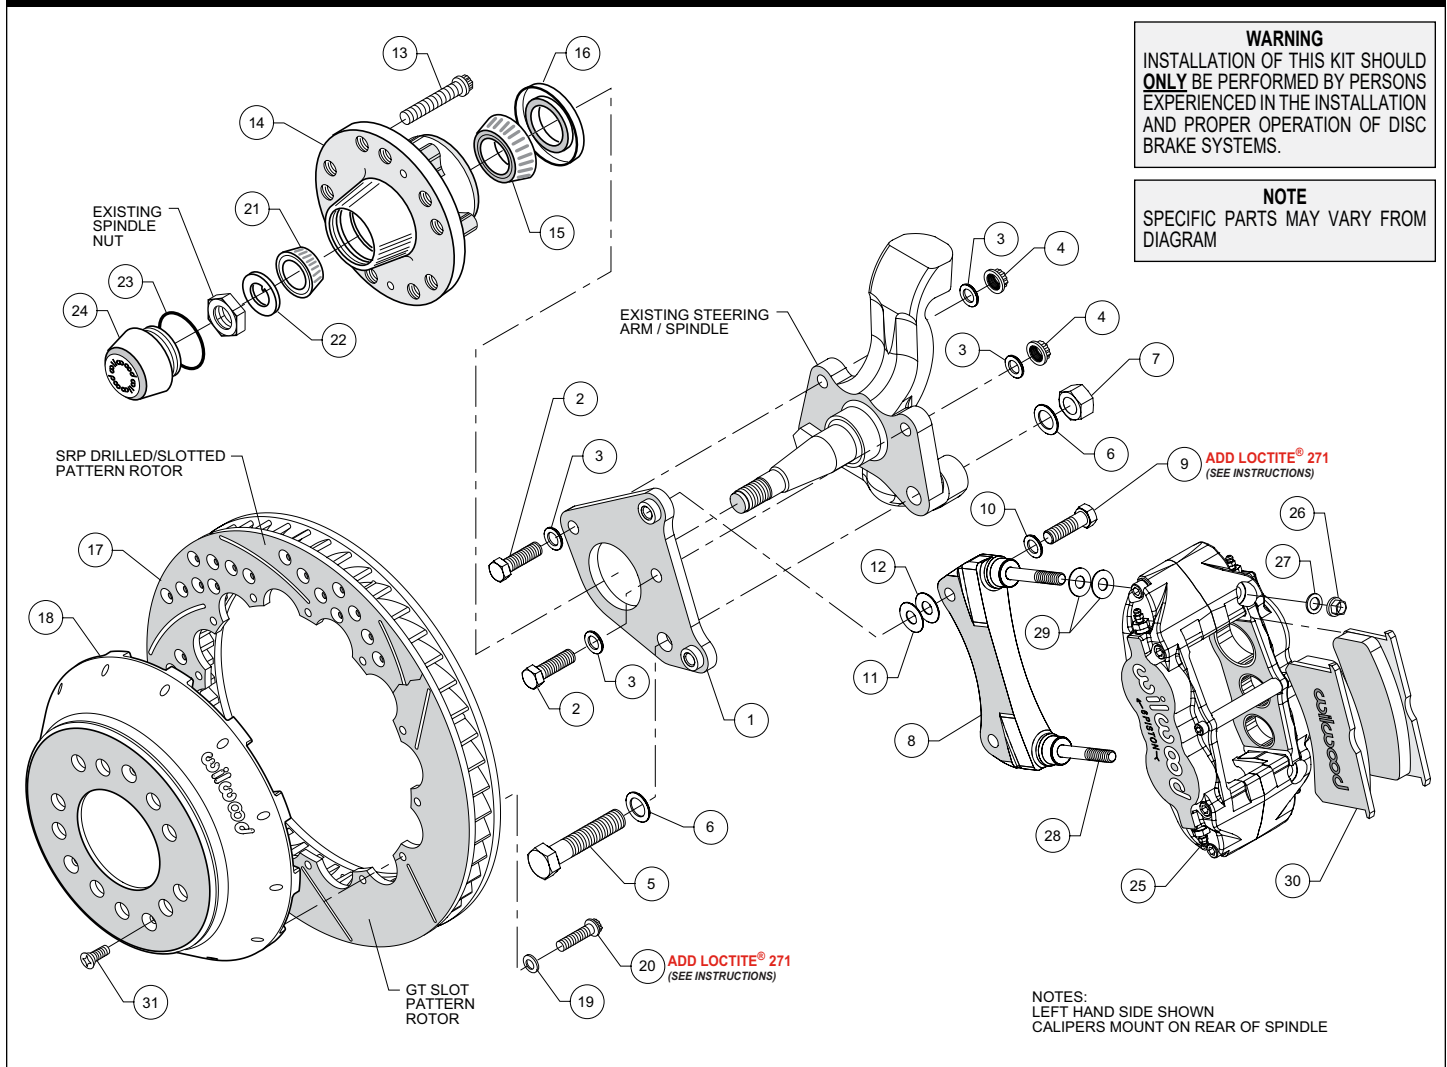

Figure 1. Typical Installation Configuration
NOTE: Numbers in parenthesis refer to the parts list and Figure 1 on the preceding pages.
- Install the flat caliper bracket (1) to backing plate face of spindle using bolt (5) and washer (6) as shown in Figure 1. Install another washer (6) and lock nut (7) on the rear side. Install two bolts (2) with washers (3) through caliper bracket. Install another washer (3) and lock nut (4) on the rear side of each bolt. Torque two lock nuts (4) to 47 ft-lb. Torque lock nut (7) to 140 ft-lb. **NOTE:** Be sure the heads of the caliper bracket (1) insert nuts are facing outward toward the wheel. Reference Figure 1 as necessary.
- The radial caliper mounting bracket assembly (8) should be installed first with clean, dry threads on the mounting bolts. Install the bracket on the inboard side of the flat caliper mounting bracket (1) by sliding bolt (9) through flat washer (10), through the mounting hole in the bracket (8) and into the flat bracket (1) insert nuts. Initially place two shim washers (12) between the two brackets (1 and 8) (see figure 1). The radial bracket (8) must tighten squarely against the inboard side of the flat mounting bracket (1). Later, after the caliper, pad, and rotor alignment has been checked, and any necessary shims have been put in place, the mount bolts should be coated with red *Loctite*® 271 and torqued to 47 ft-lbs.
- Install five new wheel studs (13) into the hub (14). Torque to 77 ft-lb. **NOTE:** There are two five lug patterns in the hub (5 x 4.00 and 5 x 4.50). Make sure of the correct hole pattern for the correct wheel application before installing studs into hub.
- Pack the large inner bearing cone (15) with high temperature disc brake bearing grease (available from your local auto parts store) and install into the backside of the hub (14).
- Pack the small outer bearing cone (21) with high temperature disc brake bearing grease. Lightly coat the spindle bearing surfaces with bearing grease. Slide the hub assembly (13, 14, 15 and 16) with outer bearing cone (21) onto the spindle. Secure using spindle washer (22) and existing spindle nut. Adjust bearings per OEM specifications and install nut locking device.
- Install the dust cap (24) onto the hub (14). Friction created by the o-ring (23) on the dust cap (24) keeps it from unscrewing. The O.D. of the existing spindle washer may be larger than the I.D. of the dust cap (24) which may allow the washer to contact the dust cap (24). Be sure to use the spindle washer (22) supplied with the kit instead of the stock washer.
- NOTE:** *This kit contains distinct right and left hand calipers that must be mounted in a specific direction, as described below.* Initially place two .035" thick shims (29) on each stud (28) as shown in Figure 1. Mount the caliper (25) onto the bracket (8) using lock nuts (26) and washers (27), Figure 1. Ensure that the caliper is mounted so that the largest pistons are at the rotor exit end of the caliper, in relation to the direction of rotor rotation. Temporarily tighten the lock nuts and view the rotor through the top opening of the caliper. The rotor should be centered in the caliper. If not, adjust by adding or subtracting shims (11 and/or 12) between the radial bracket and the spindle bracket. Always use the same amount of shims on each of the two mounting bolts.
- Remove the caliper center bridge pad retainer bolt, nut, and tube from the caliper. Slide the brake pads (30) into place. They should install easily without interference. Check that the outside radius of the brake pad is flush with the outside diameter of the rotor face. Add or subtract shims (29) between the caliper and radial mounting bracket to gain the proper alignment. Reinstall the center bridge pad retainer tube, bolt, and locknut. The locknut should be snug without play in the bolt or tube. Be cautious not to over tighten.
- Once all clearances have been checked, remove the wheel, caliper, hat, and rotor from the spindle and hub. Secure the radial caliper mounting bracket (8) to the flat caliper mounting bracket (1) using red *Loctite*® 271. Torque the bolts to 47 ft-lbs. Reinstall the hat and rotor assembly and again use several lug nuts to hold it in place. Reinstall the caliper, torque the caliper nuts (26) to 30 ft-lbs.
- Install three flat head socket screws (31) through the small holes in the hat (18) and torque to 85 in-lb.